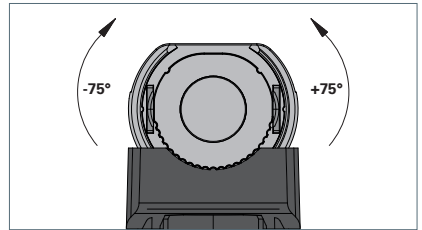

Fig. 4: Aligning the luminaire between -75° and +75°.
- ▶ Turn the luminaire at an angle of between -75° and +75° until the work area is optimally lit, see Fig. 4.